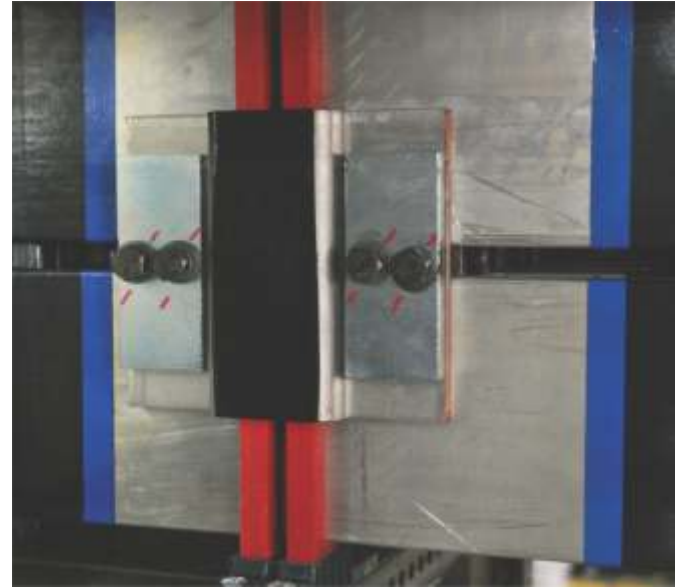

Figure 38 - Top plate
5. Join horizontal bus bars using the fishplates as shown in Figure 38.